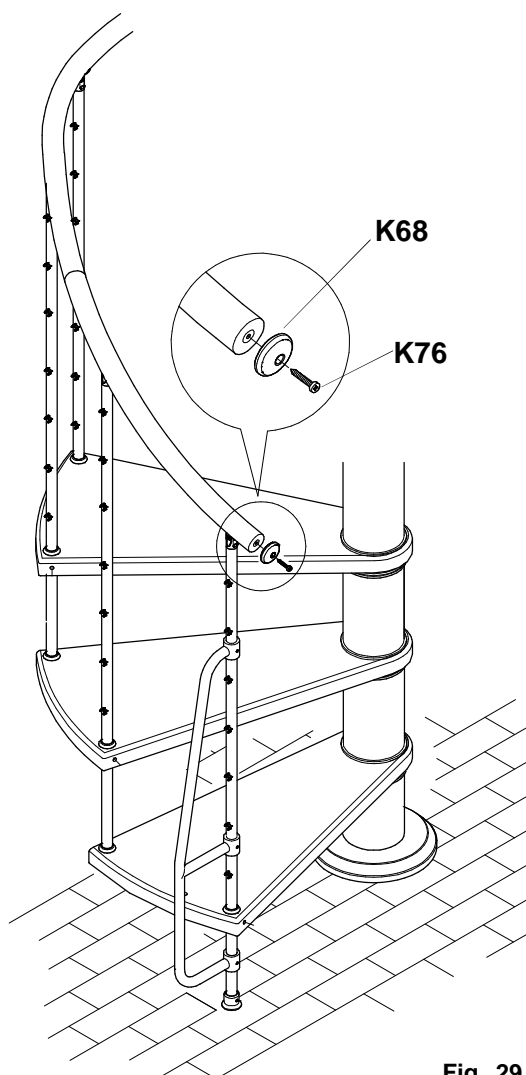

Fig. 29
- Mount the **K68** plug and lock it through the **K76** screw. fig. 29.